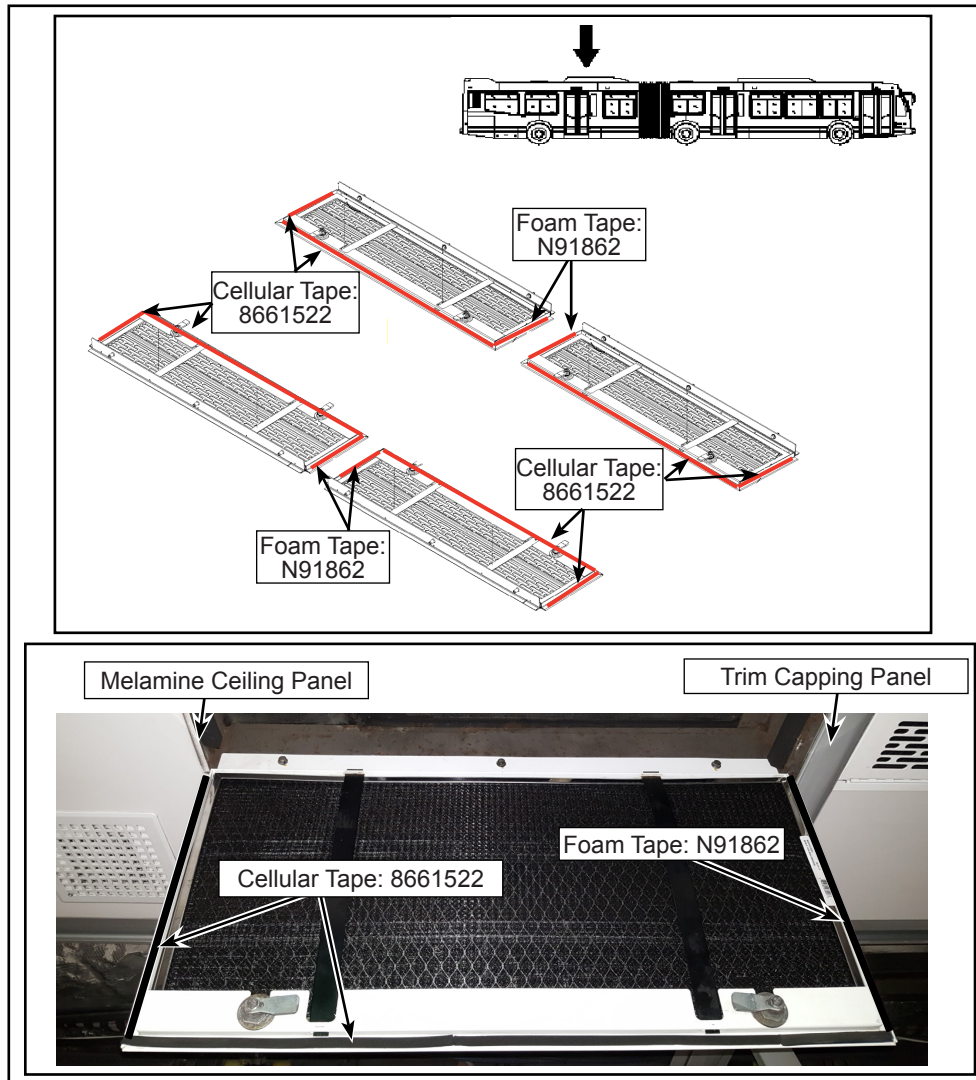

Figure 6 - Installation of Foam Tape and Cellular Tape (Rear Section)
- 1.12. Clean the bonding surfaces and install the indicated foam tape on the exterior perimeter of the grill assemblies as shown (see Figure 6). Ensure that there are no gaps left.